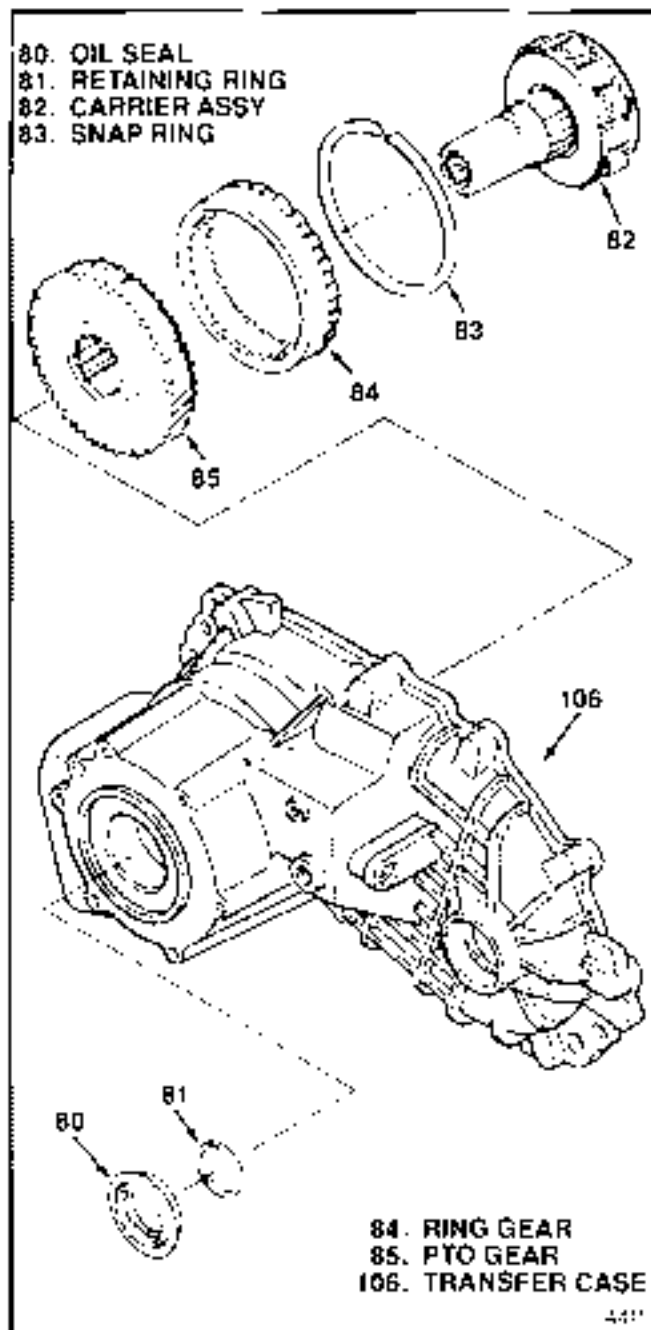

Figure 3-10. Carrier Assembly and Ring Gear
- e. Remove assist spring (77) and assist bushing (78).
- f. Remove shift cam (79) from transfer case (106).
**3-15. REMOVAL OF CARRIER ASSEMBLY AND RING GEAR.** From remaining transfer case assembly (80 through 106), remove the following (see figure 3-10):
- a. Pull oil seal (80) from transfer case (106).
- b. Remove retaining ring (81) from input shaft of carrier assembly (82).
- c. Remove carrier assembly (82) from transfer case (106).
- d. Remove snap ring (83) and pull ring gear (84) from transfer case (106).
- e. Remove 1st gear (85).